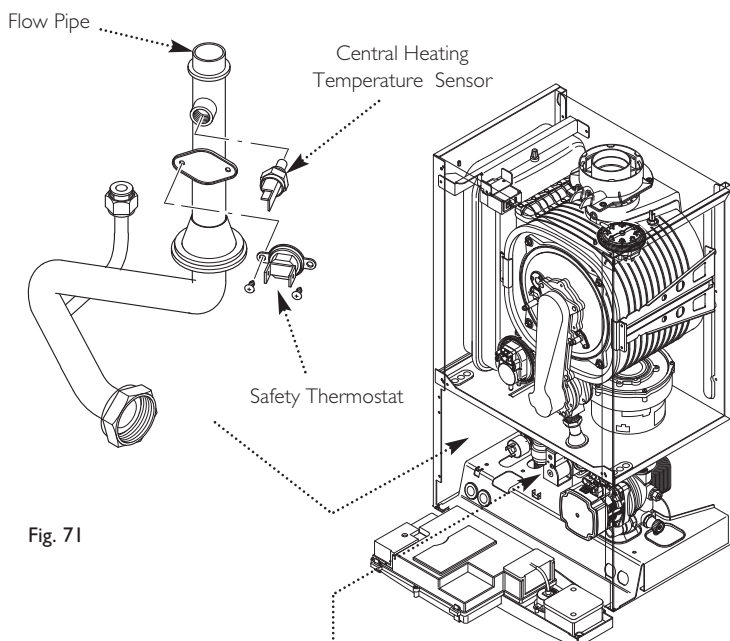

Fig. 71
13.11 Central Heating Temperature Sensor (NTC) (Fig. 71)